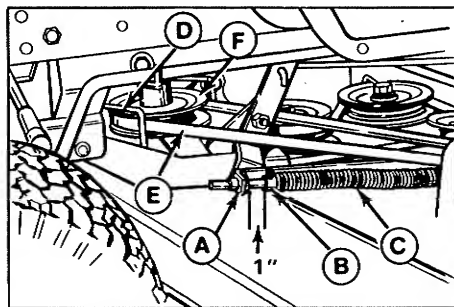
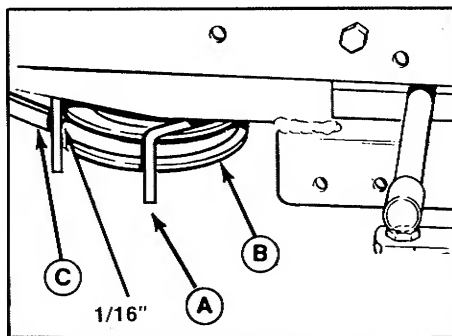

Figure 31. Mower Drive Belt Tension Adjustment - 42" & 48"
Figure 32. Right-Hand PTO Pulley Belt Stop
2. Measure the distance between the PTO rod guide (A, figure 31) and the set collar (B). The distance should measure one inch. If not, proceed to step 3.
4. Loosen the setscrew in the set collar (B). Move the rod forward to increase gap, or backward to decrease gap. Retighten the setscrew.
There are two belt stops at the PTO pulley; one on the left (D, figure 31) and one on the right (A, figure 32). With the PTO lever engaged, measure the distance between the belt stop and belt. There should be 1/16 inch (1.5 mm) clearance between each belt stop and the belt. To adjust a belt stop, loosen its mounting capscrew, move the belt stop, and retighten the capscrew. Recheck the measurement.